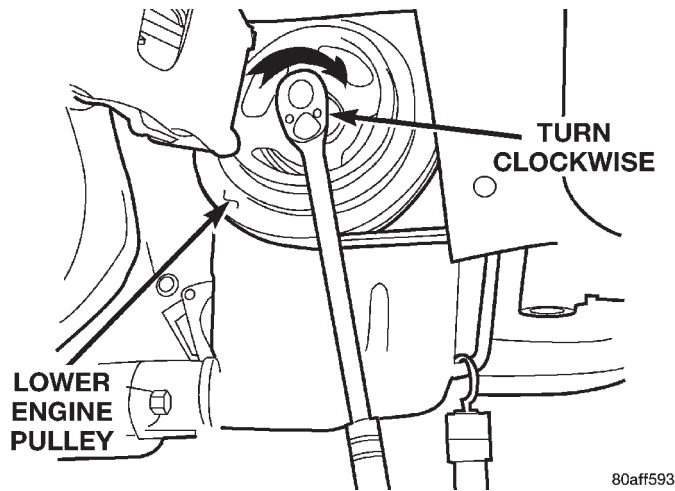
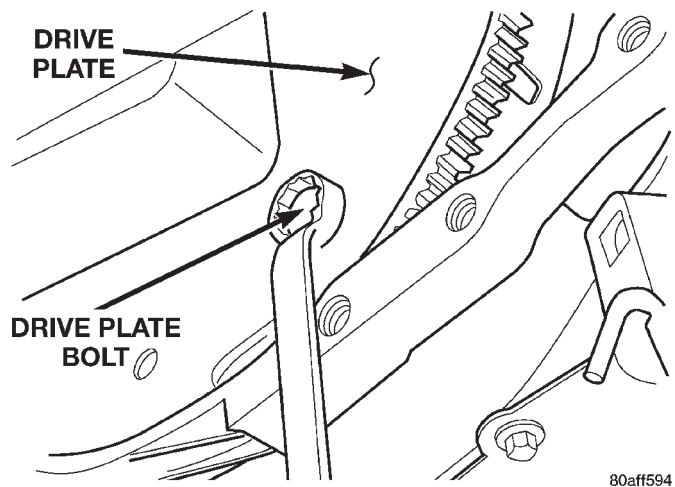

Fig. 59 Rotate Engine Clockwise
Fig. 60 Converter Bolts
- (22) Remove flex plate cover.
- (23) Rotate engine clockwise to line up converter bolts (Fig. 59). Remove converter bolts (Fig. 60). Mark converter for reassembly ease.